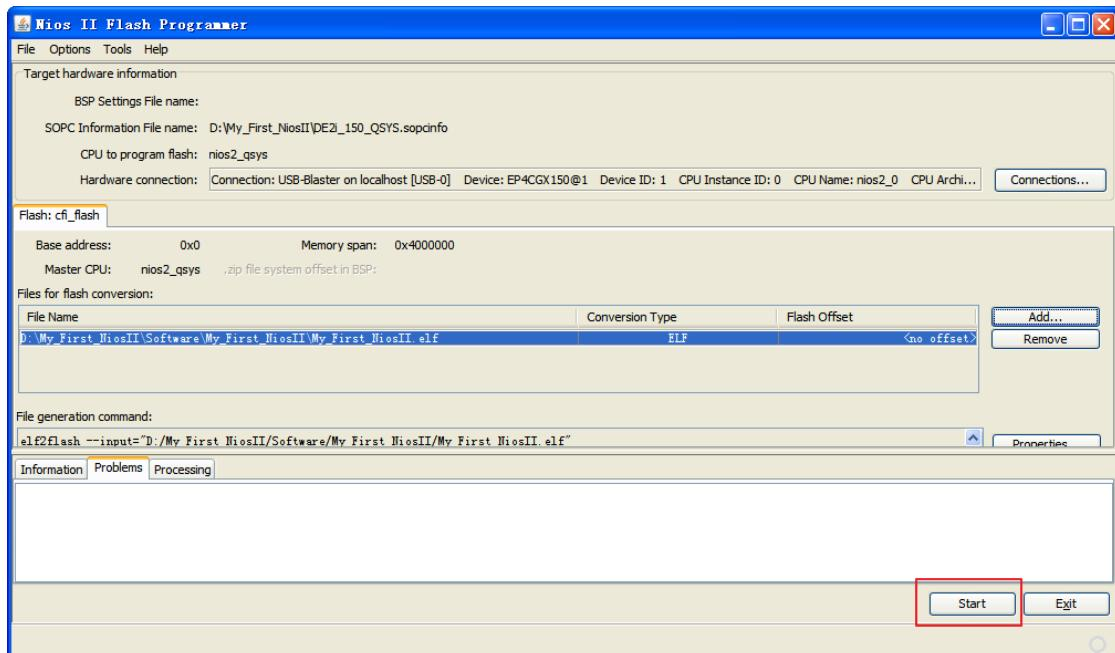

**Figure 3-27 Back Nios II Flash Programmer**
5.Click ok to back the Nios II Flash Programmer box as shown in Figure 3-27, and click add.. to select file to Flash Conversion as shown in Figure 3-28.